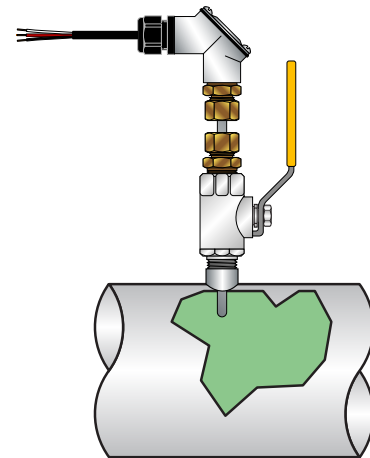

Figure 36: Insertion style RTD installation
**NOTE:** The hot tap shutoff shown in *Figure 36* is customer-supplied.